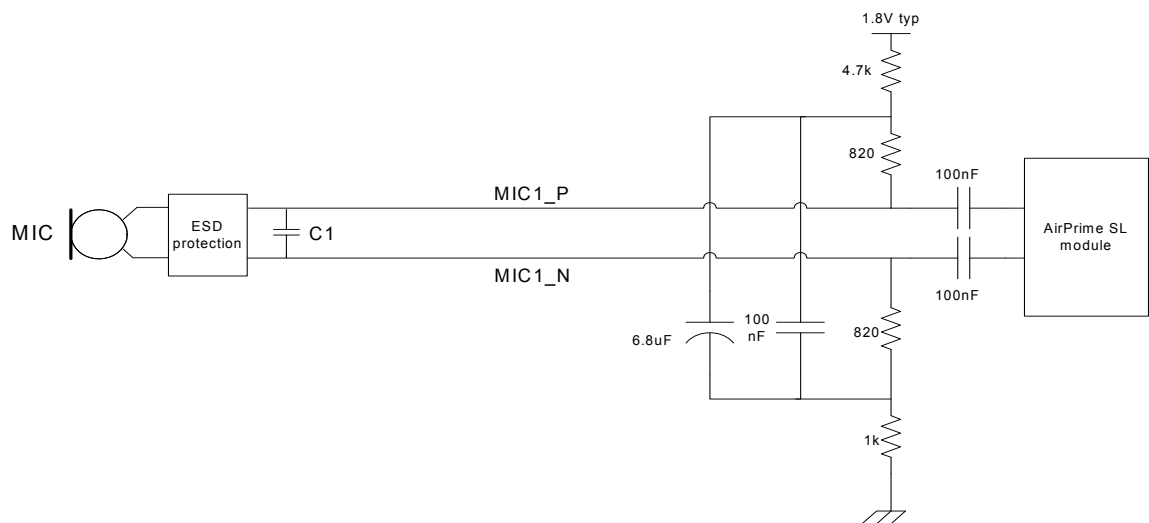

Figure 4-6: Example—MIC differential connection without an LC filter
- If no filter is used, capacitors must be removed and the coil replaced by 0Ω resistors resulting in an equivalent circuit as shown in Figure 4-6 on page 58.